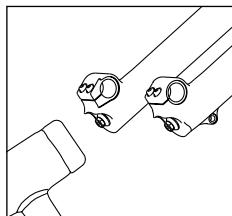

Fig. 2
- Place an oil pan underneath the fork. Partially loosen shaft bolts with a 6mm hex wrench, tap bolts firmly with a soft mallet to break shafts free from lower tubes (Fig. 2), and remove bolts completely.